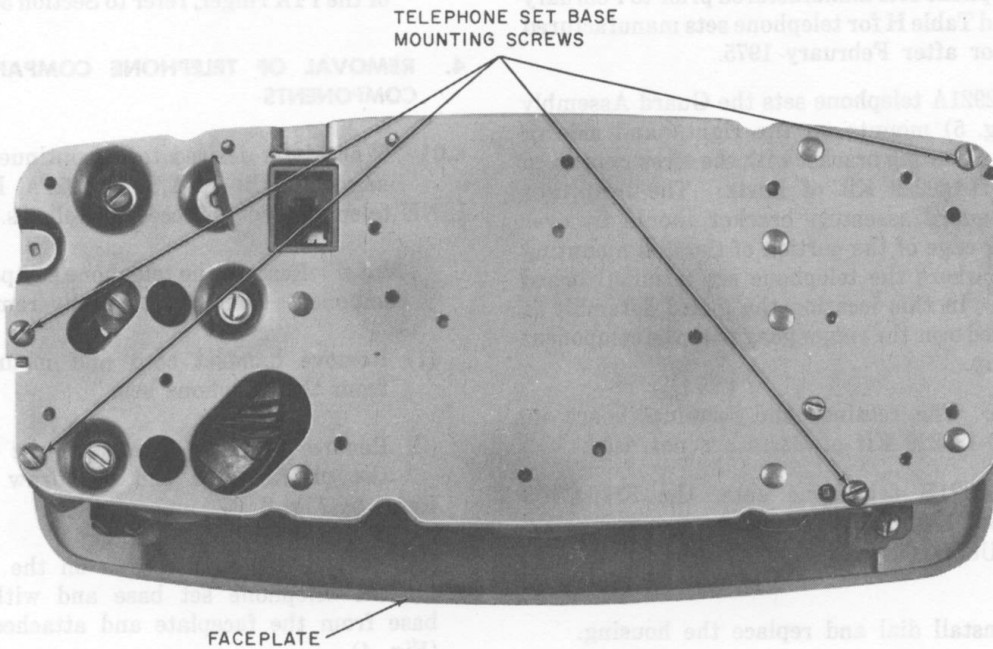

Fig. 4—Removing Telephone Set Base From Faceplate
(3) Remove the four screws on the bottom of the telephone set base and withdraw the base from the faceplate and attached brackets (Fig. 4).